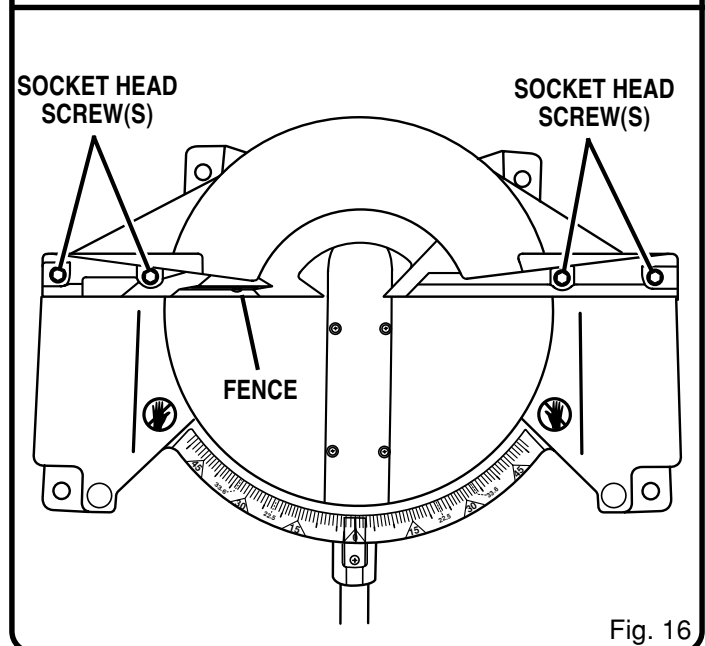

Fig. 16
- Using the blade wrench provided, loosen the socket head screws securing the fence. See Figure 16. Adjust the fence left or right until the framing square and zero clearance throat plate are parallel.
See Figures 16 - 20
- Loosen the socket head screws that secure the miter fence to the miter table. See Figure 16.